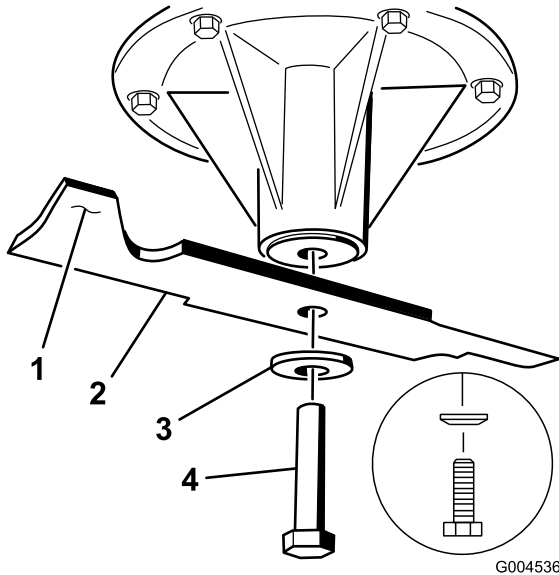

Figure 97
2. Check the balance of the blade by putting it on a blade balancer (Figure 96). If the blade stays in a horizontal position, the blade is balanced and can be used. If the blade is not balanced, file some metal off the end of the sail area only (Figure 97). Repeat this procedure until the blade is balanced.
1. Install the blade onto the spindle shaft (Figure 97).
2. Install the spring disk and blade bolt. The spring disk cone must be installed toward the bolt head (Figure 97). Torque the blade bolt to 85-110 ft-lb (115-150 N-m).